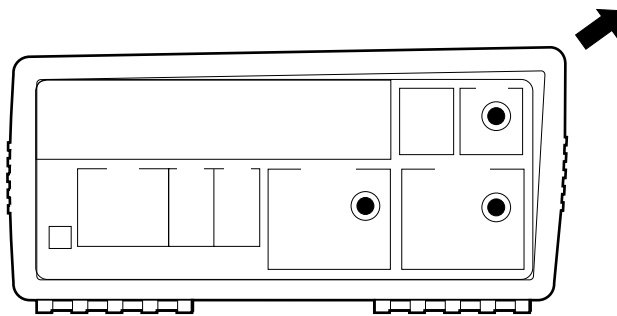

Figure 3-4. Front Rubber Bumper Removal
- 3 Remove the front rubber bumper (part of MP2), stretch a corner and then slide it off as shown in Figure 3-4.**